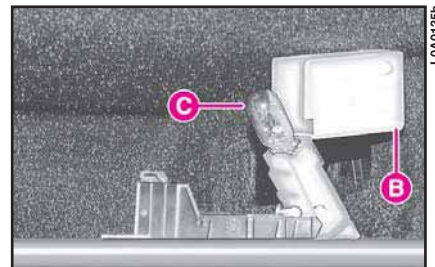

fig. 37
2) Press the two sides of shield **B** (fig. 37) at the fastening clips and turn it.